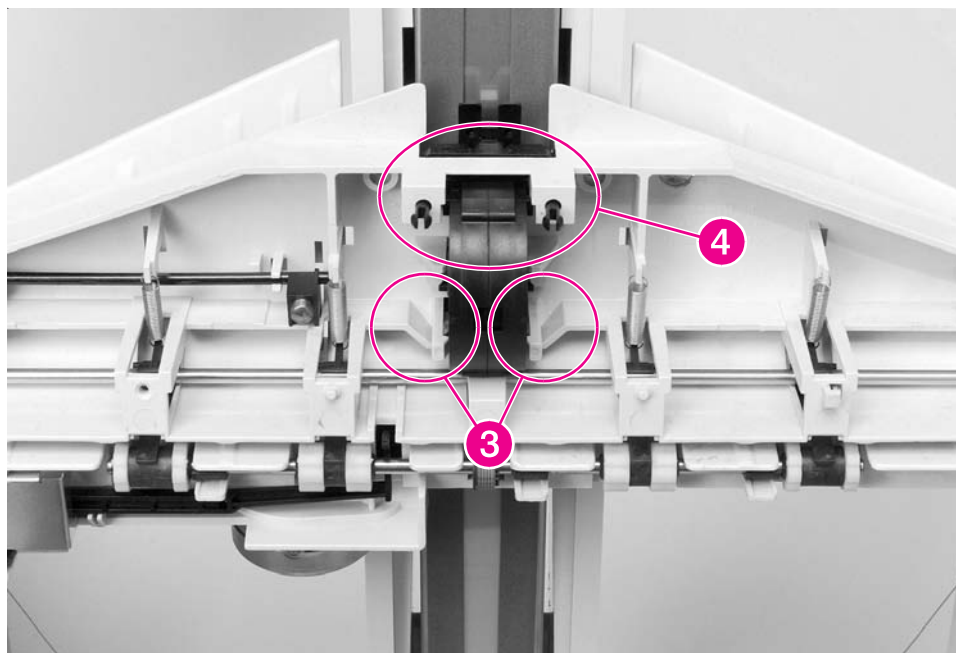

Figure 6-164 8-bin Mailbox Metal Tape and Housing Assembly (2 of 2)
- 5 Using a flat-blade screwdriver, release the plastic retaining tabs located on each side of the tape housing (Figure 6-164, callout 3).
- 2 Use the guide pins to reinstall the tape housing (Figure 6-164, callout 3). When the housing is correctly positioned, it will click into place.